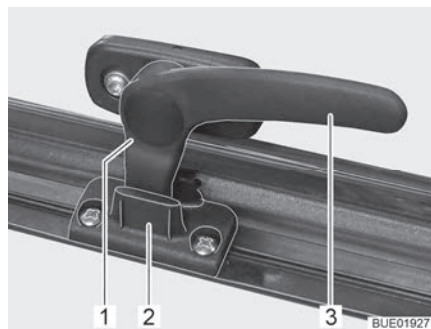

Fig. 21 Catch lever in "continuous ventilation" position
- "Continuous ventilation" (Fig. 21)
- Turn the catch lever (Fig. 21,3) a quarter turn towards the centre of the window.
- Turn the catch lever a quarter turn towards the window frame. The locking catch (Fig. 21,1) has to be moved into the recess of window catch (Fig. 21,2).